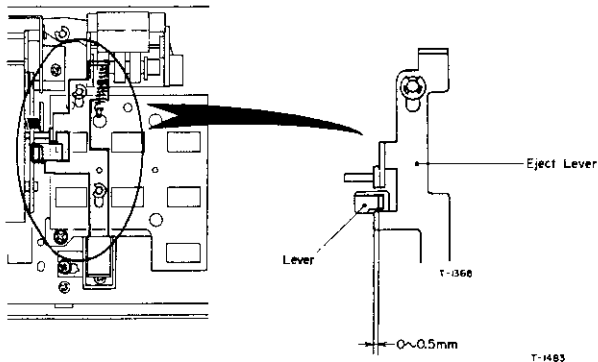

Fig. 4-9
4. Check that position relationship between the lever and the eject lever is as shown in Fig. 4-9.